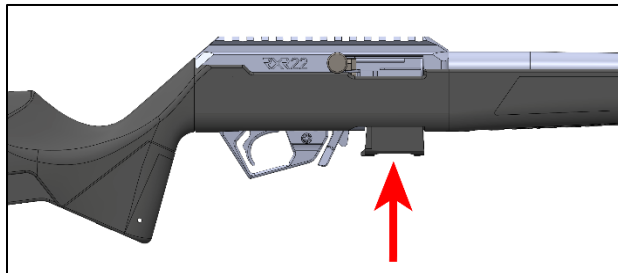

Figure 13
- Insert the magazine into the opening in the stock with the cartridge projectile facing towards the muzzle – Figure 13. The magazine will only install in one orientation.